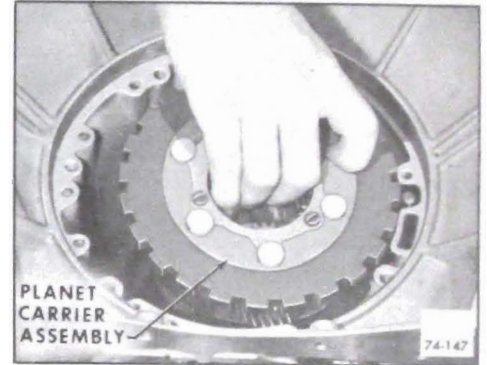

Figure 74-300
3. Install planetary gear set into case. See Figure 74-300.